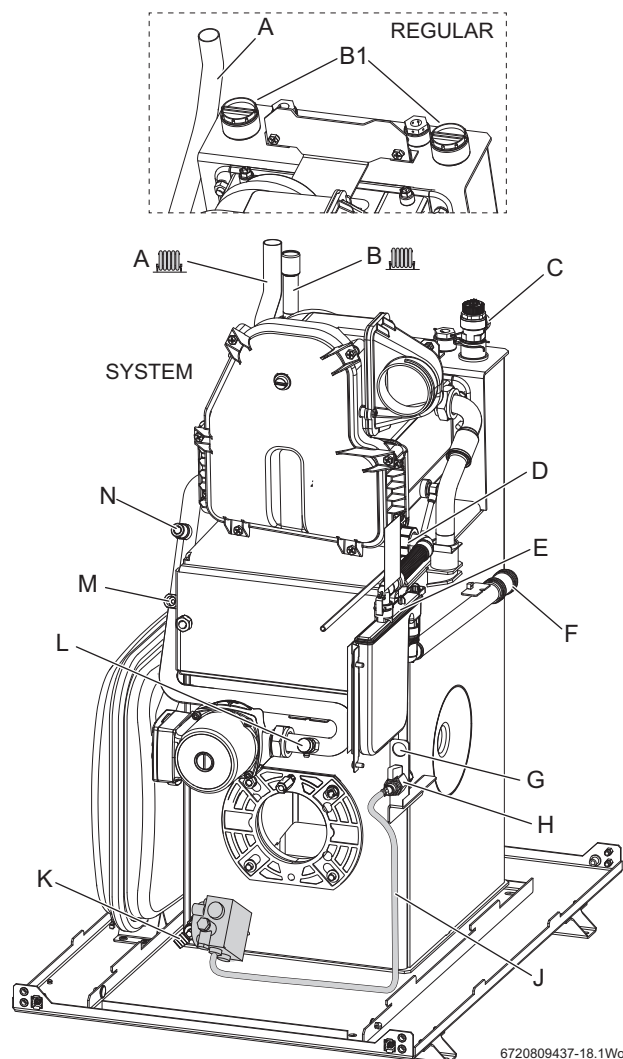

Fig. 30 Pipework connections
- ▶ Refer to figure 30 and ensure that the isolating valve (H) is closed and route the oil supply pipe along the right side of the boiler and connect to the isolating valve (H).